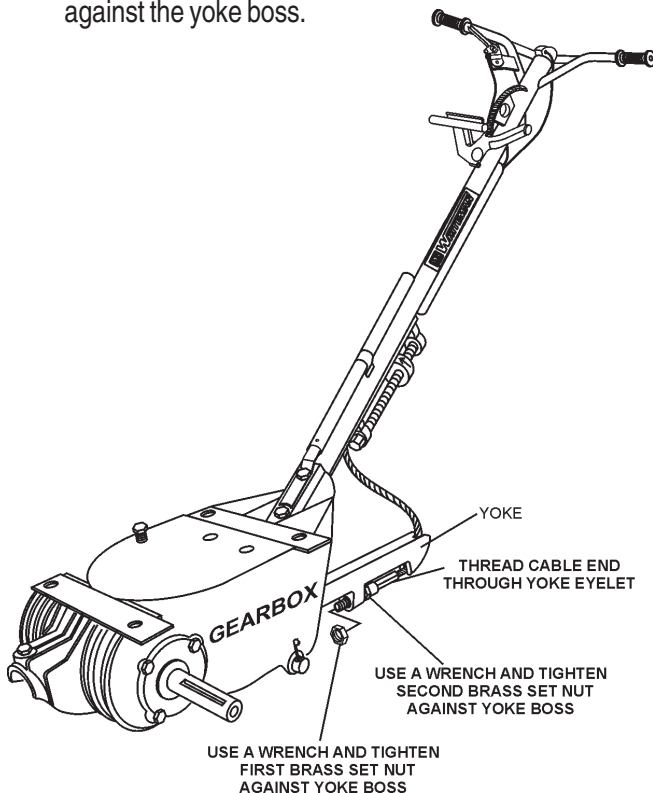

Figure 8. Cable Yoke Attachment
5. Insert the cable end through the yoke eyelet (Figure 8) Tighten the first brass set nut by hand to remove all the slack from the cable.